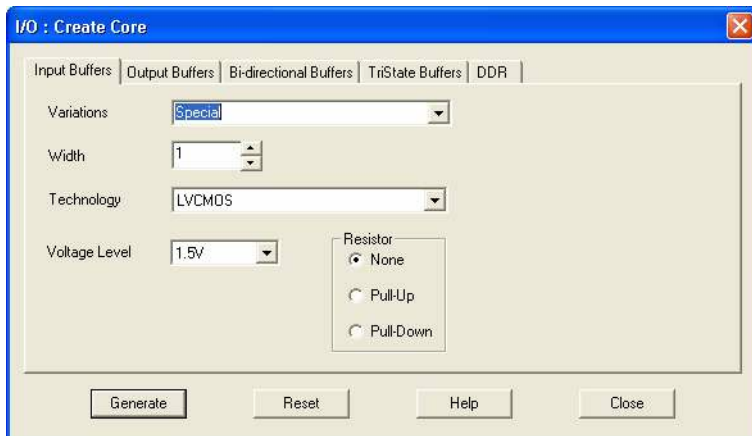

Figure 9-3 • I/O Create Core Window
3. Double-click I/O to open the Create Core window, which is shown in Figure 9-3).
As seen in Figure 9-3, there are five tabs to configure the I/O macro: Input Buffers, Output Buffers, Bidirectional Buffers, Tristate Buffers, and DDR.
The **Special** variation has Width, Technology, Voltage Level, and Resistor Pull-Up/-Down options (see Figure 9-3). All the I/O standards and supply voltages (V_{CC1}) supported for the device family are available for selection.